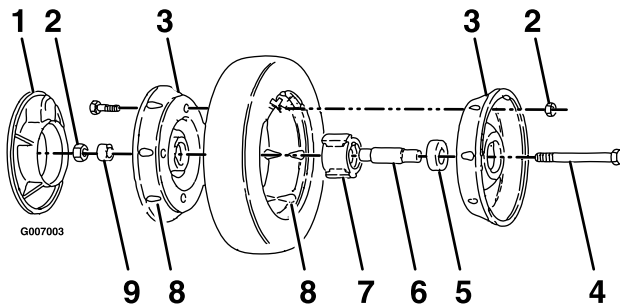

Figure 26
3. Remove the bolt, the wheel spacer, and the locknut mounting the wheel to the pivot arm (Figure 26).